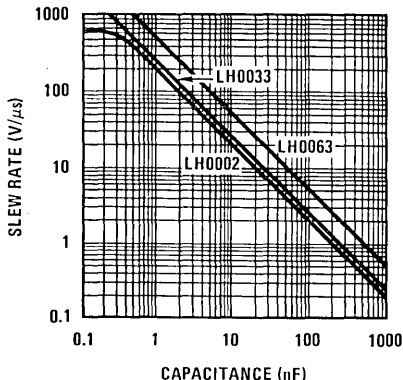

FIGURE 24. Slew Rate vs Load Capacitance
Note that the peak current available to the load decreases as C_L charges [see equation (2)]. Figure 24 illustrates the effect of the load capacitance on slew rate for the three buffers. Slew rate tests are specified for resistance and/or very small capacitance load, otherwise the slew rate test would be a measure of the available output current. For highest slew rate, it is obvious that stray load capacitance should be minimized.